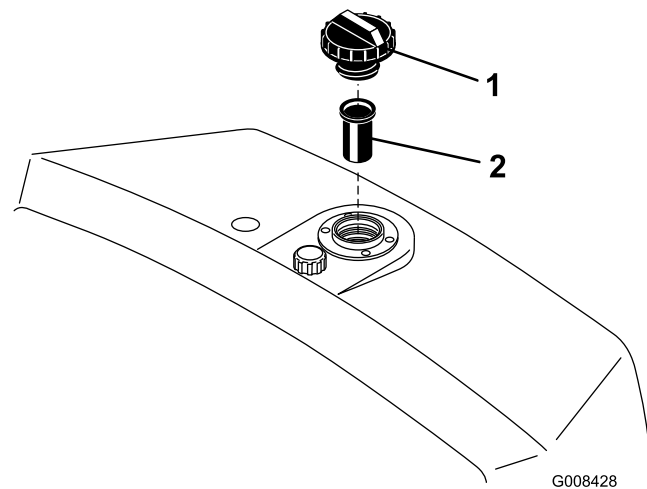

Figure 26
2. Remove the cap from the reservoir and check the level of fluid. The fluid should be up to the bottom of the screen in the filler neck (Figure 26).